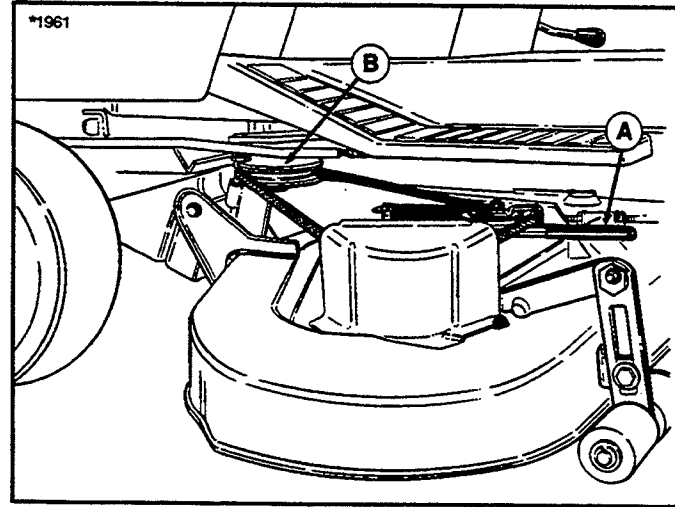

Figure 9. Installing Belt
5. See figure 9. On left side of tractor, move idler pulley arm (A) to relieve belt tension. Install belt onto the PTO pulley (B).